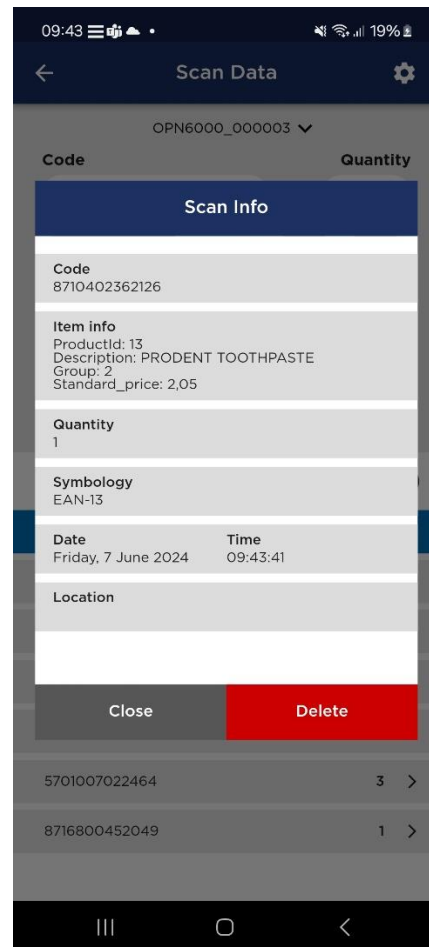

Figure 8-9: The imported CSV metadata, including product description, group, and standard price, associated with the scanned item (barcode: 8710402362126).
An entry in the scanned code list can be clicked to make it active, changing its background to blue. If the active entry is clicked again, a detailed 'Scan Info' dialog will open, containing the barcode, item info, total quantity (sum of all entries with this barcode), symbology, date and time of scan, and location (if enabled) (see Figure 8-9). Additionally, you can drag an entry in the scanned codes list to the left to erase the entry.
- After the CSV data has been processed, each scanned item will have the corresponding metadata from the CSV file added to its information. This ensures that all relevant details, such as product description, group, and standard price, are associated with each scanned barcode, as demonstrated in Figure 8-9.